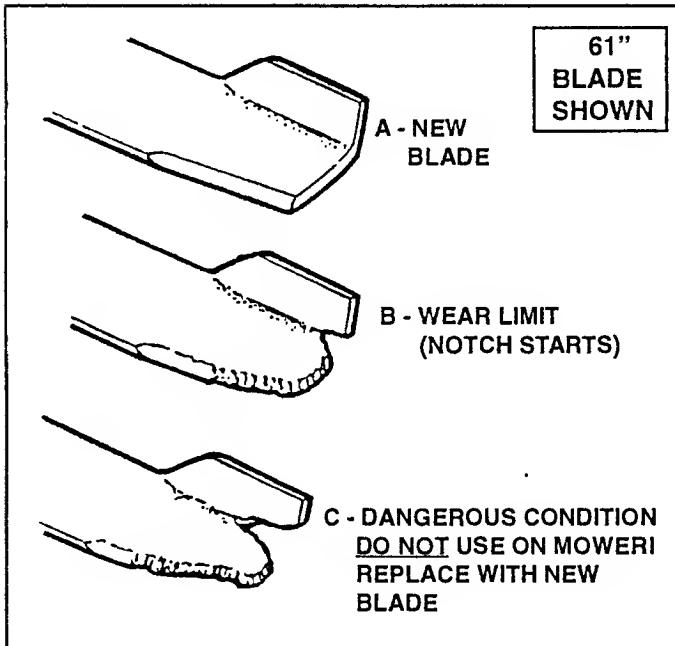

FIGURE 9.1
A. When performing service on a mower unit, be sure to check the Cutting Blades for damage or signs of excessive wear. See Figure 9.1 for blade wear limits.
Never allow a customer to take a mower out of your repair shop with a Cutting Blade worn to the extent shown in Illustration "C" of Figure 9.1, without warning that customer of the danger that a tip could fly off and cause either personal injury or property damage.
- C. Clean and inspect each Blade for excessive wear and damage. Refer to Figure 9.1.